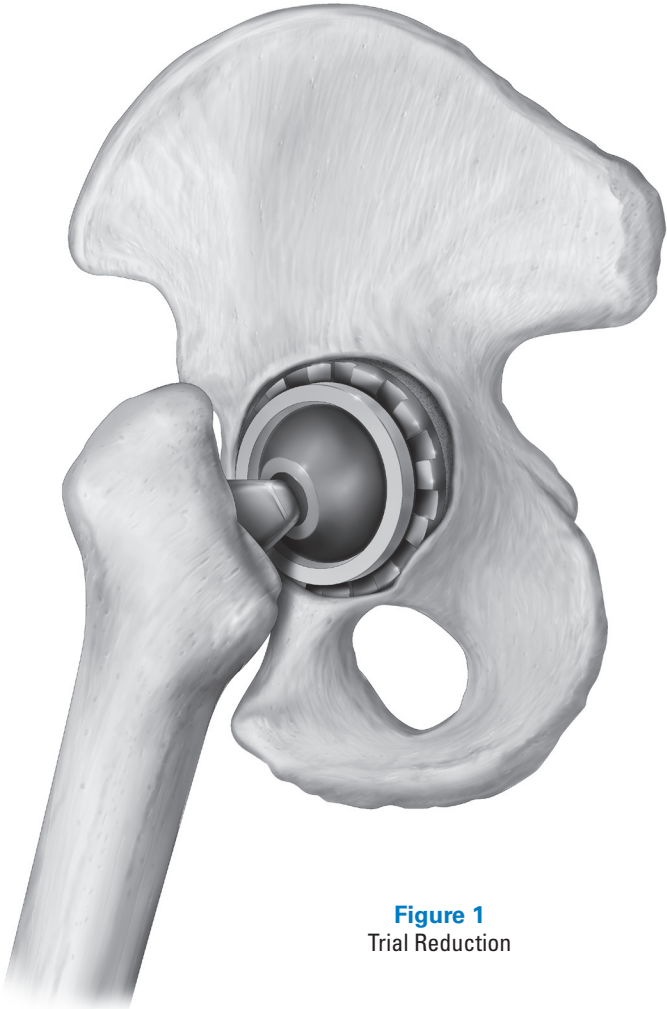

Figure 1
Step 2: Use of a **Crown Cup Constrained Liner Trial** is recommended prior to the insertion of the definitive liner into the Acetabular Shell. Select the appropriately sized Liner Trial according to the Acetabular Shell in place (Table 1). Ensuring that the mating surfaces of the shell and liner are clear from soft tissue or debris, insert the Liner Trial by hand into the shell. The Liner Trial provides a gentle press fit that should be achieved by hand pressure when inserting. Perform trial reduction (Figure 1).